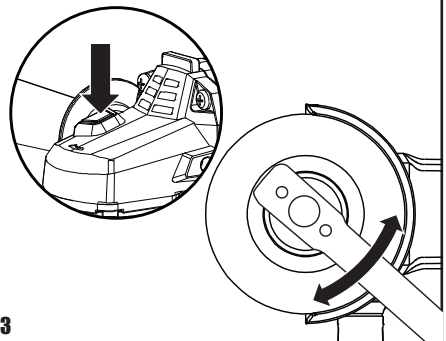

Fig. C3
Press in the spindle lock button (3) and rotate the spindle by hand until it is locked. Keeping the lock button pressed in, tighten the outer flange (10) with the spanner provided (See Fig. C3).